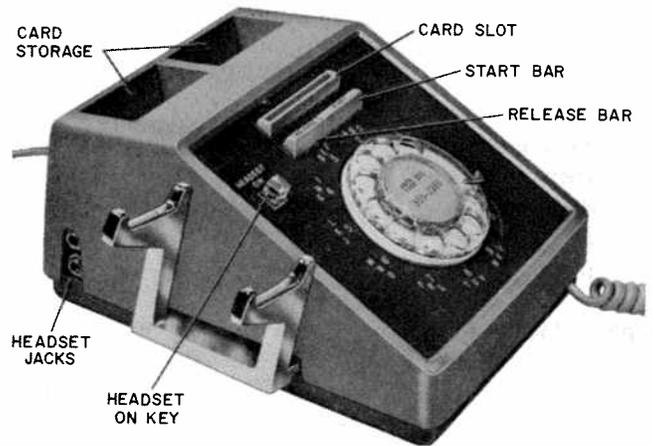
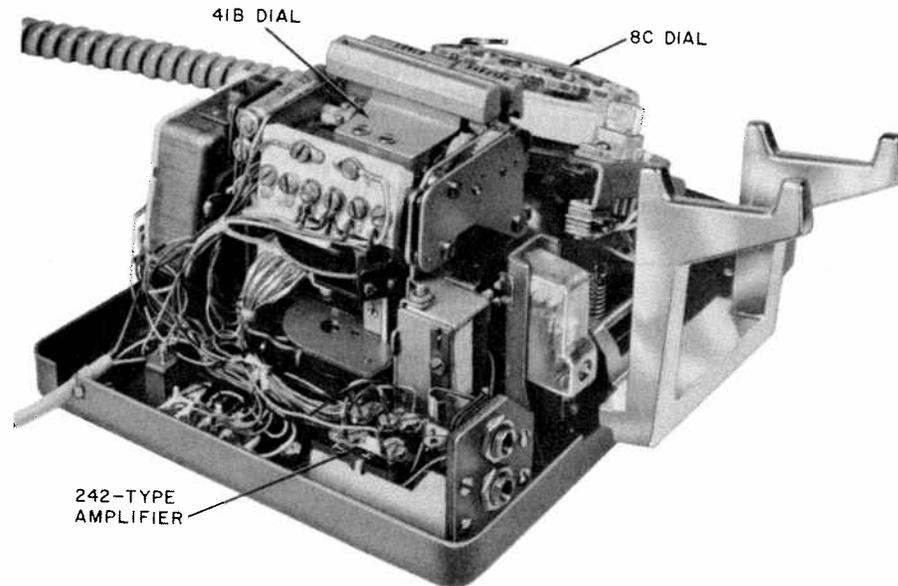

Fig. 2—663-Type Telephone Set
Fig. 4—663-Type Telephone Set, Housing Removed
2.08 The 663A1 set is equipped with an amplifier and headset jacks to permit either handset or headset operation (Fig. 4). The HEADSET ON key is located at the top left of the faceplate (Fig. 2). No provision is made for exclusion in these sets.